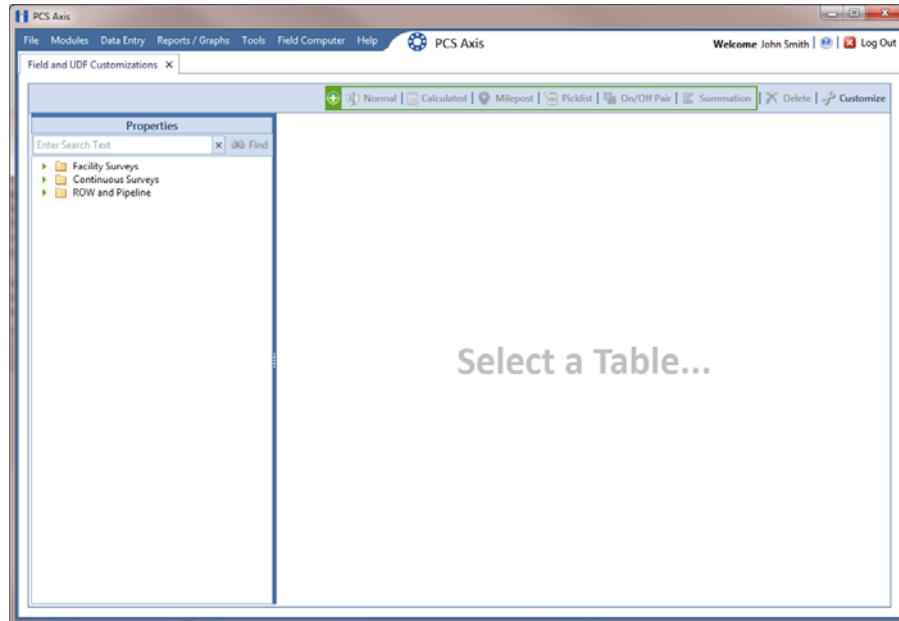

Figure 3-27. Field and UDF Customizations
- 1 Click **Tools > Field and UDF Customizations** to open the *Field and UDF Customizations* window (Figure 3-27).